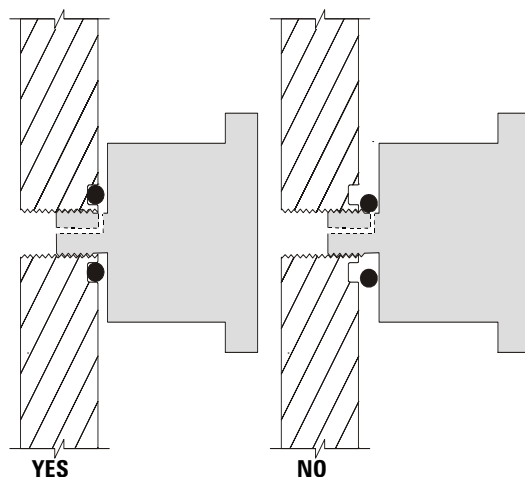

Figure 16 The MS vent valve knob
- 7 Turn the vent valve knob (Figure 16) counterclockwise *only* 3/4 turn or until you hear the hissing sound of air flowing into the analyzer chamber.